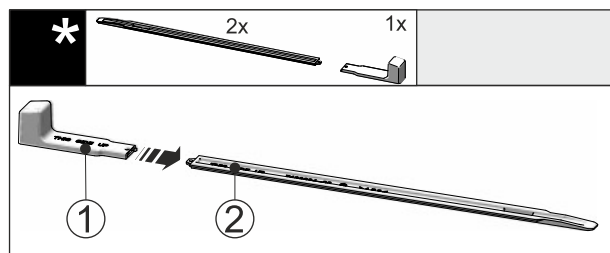

Fig. 46
- ▶ Insert the mounting handle Fig. 46 (1) into the leveling rail Fig. 46 (2).